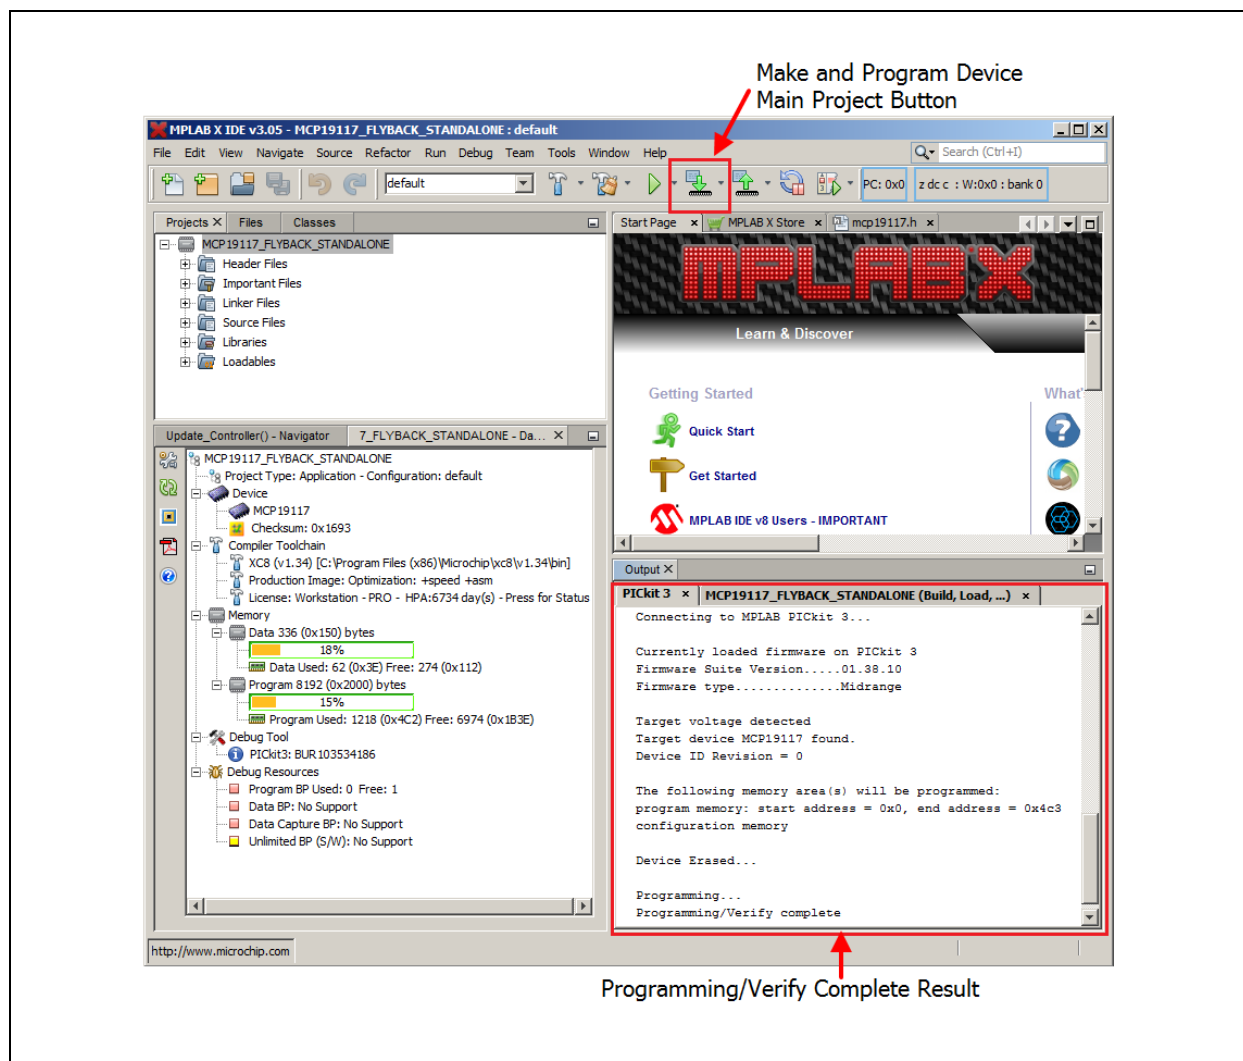

FIGURE 2-6: Selecting and Executing the Make and Program Device Main Project in MPLAB X IDE.
- When the project is open, click the **Make and Program Device Main Project** button on the tool bar to program the device. Wait until the program process is complete (see Figure 2-6).